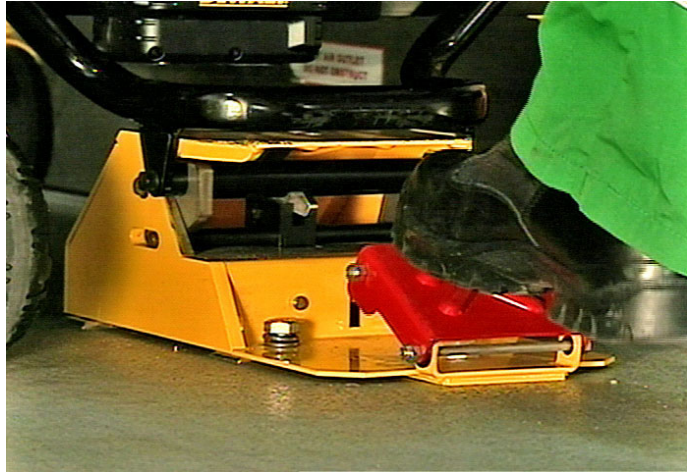

Figure 48 - Press on foot end
1. Press down firmly on the foot pedal until the locking mechanism disengages (refer to Figure 48).